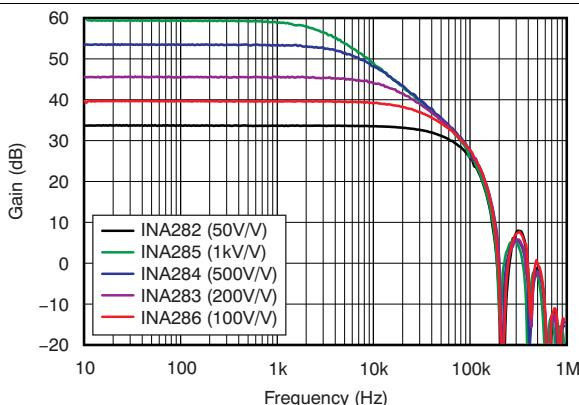
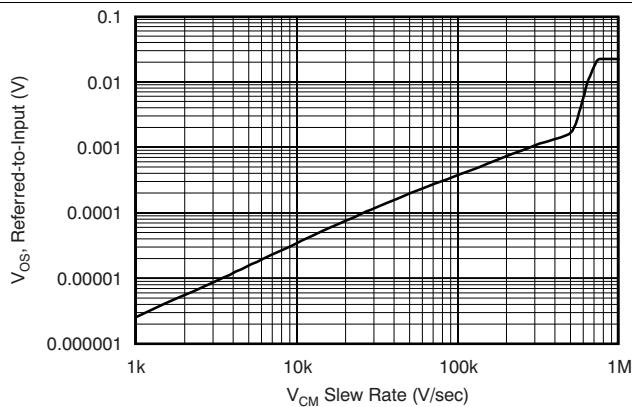

Figure 1. Gain vs Frequency
Figure 4. INA282 Common-Mode Slew Rate Induced Offset
(7) See typical characteristic graph Figure 1 and the Effective Bandwidth section.
The extremely high dc CMRR of the INA28x family results from the switched-capacitor input structure. Because of this architecture, the INA28x exhibits discrete time-system behaviors, as illustrated in the *Gain vs Frequency* curve of Figure 1 and the *Step Response* curves of Figure 21 through Figure 28. The response to a step input depends in part on the phase of the internal INA28x clock when the input step occurs. It is possible to overload the input amplifier with a rapid change in input common-mode voltage (see Figure 4). Errors as a result of common-mode voltage steps or overload situations typically disappear within 15 μ s after the disturbance is removed.